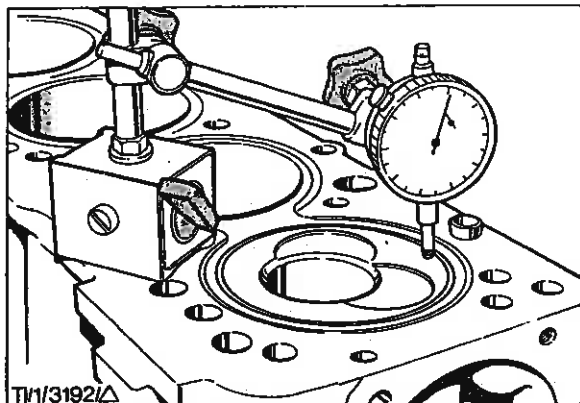

Fig. 62 - Measuring Piston 'Bump Height'
54. Rotate the crankshaft to bring the piston to Top Dead Centre (TDC). Use a dial gauge and magnetic base to ensure piston is at maximum height while applying a load to the top of the piston - see Fig. 62.